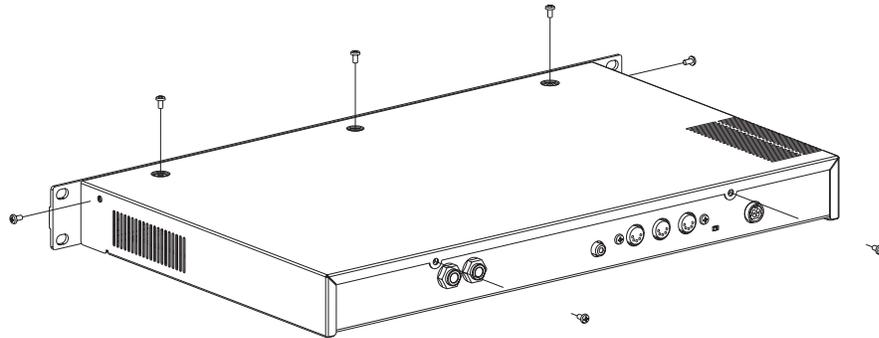

Figure 4 Removing the retaining screws
3. Using a #1 Phillips screwdriver, remove the seven screws that secure the top panel (see Figure 4).